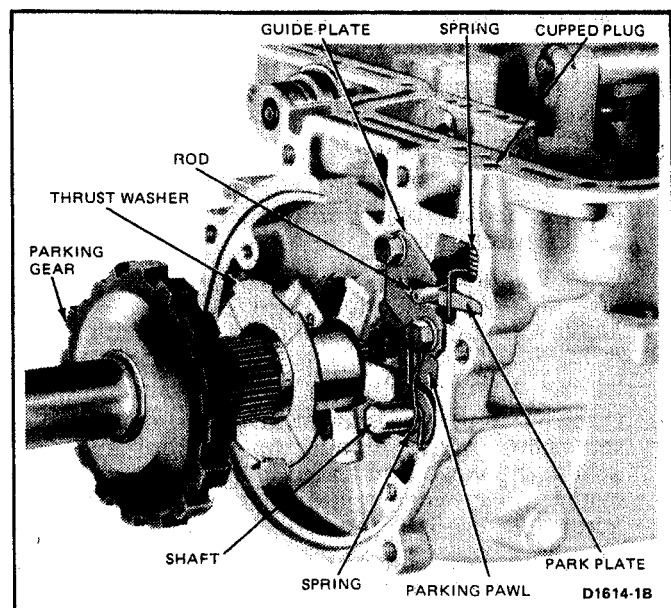

FIG. 32 Parking Pawl Mechanism
- Remove the bolts securing the parking pawl guide plate to the case (Fig. 32). Remove the plate.